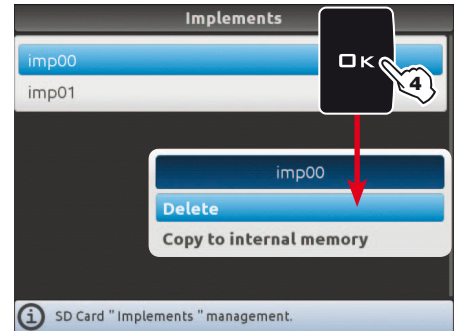

Fig. 280
- 4 In the list of memorized names select the desired implement (Fig. 280) and press **OK**.
A list of actions that can be performed for the selected implement will appear (**Delete** etc., Fig. 280). These will be described below.